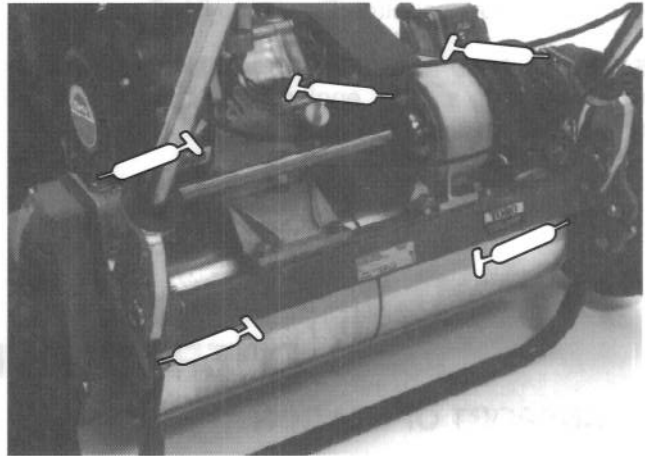
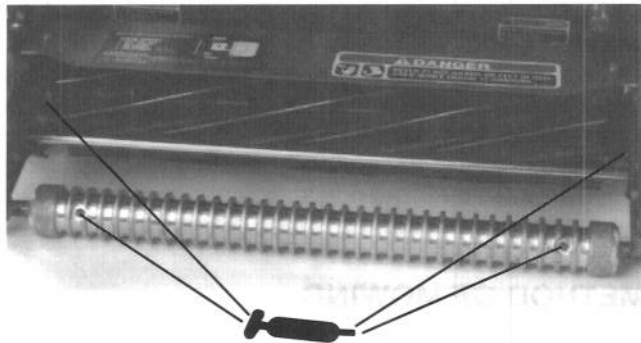

Figure 21
Figure 20
2. The grease fitting locations are: (2) on Front Roller (Fig. 20), (2) on reel bearings (Fig. 20), (2) on Drum Axles (Fig. 21), (3) on Differential (Fig. 21), (2) on Reel Countershaft Bearings (Fig. 22) and (2) on Belt Idler Pivots (Fig. 23).